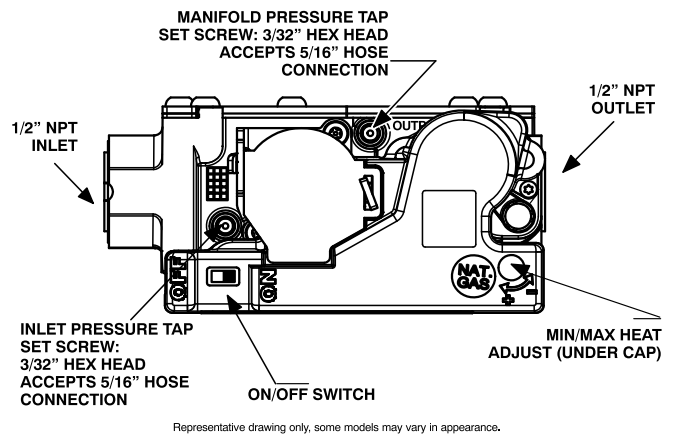

Fig. 63 – Gas Valve with Tower Pressure Ports
2. Loosen set screw on manifold tower pressure tap no more than one full turn with a 3/32-in. hex wrench, or remove the 1/8 in. NPT plug from the manifold pressure tap on the gas valve, see Fig. 63.